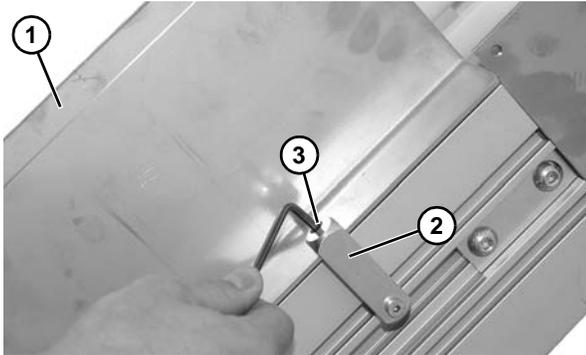

**Figure 30**
1. Install guide block (**Figure 30, item 1**) with drop-in tee bar (**Figure 30, item 2**) in conveyor slot
2. Tighten socket head screw (**Figure 30, item 3**) to secure position.
3. Install guide (**Figure 31, item 1**) onto top slot in guide block (**Figure 30, item 2**) and secure with set screw (**Figure 30, item 3**).